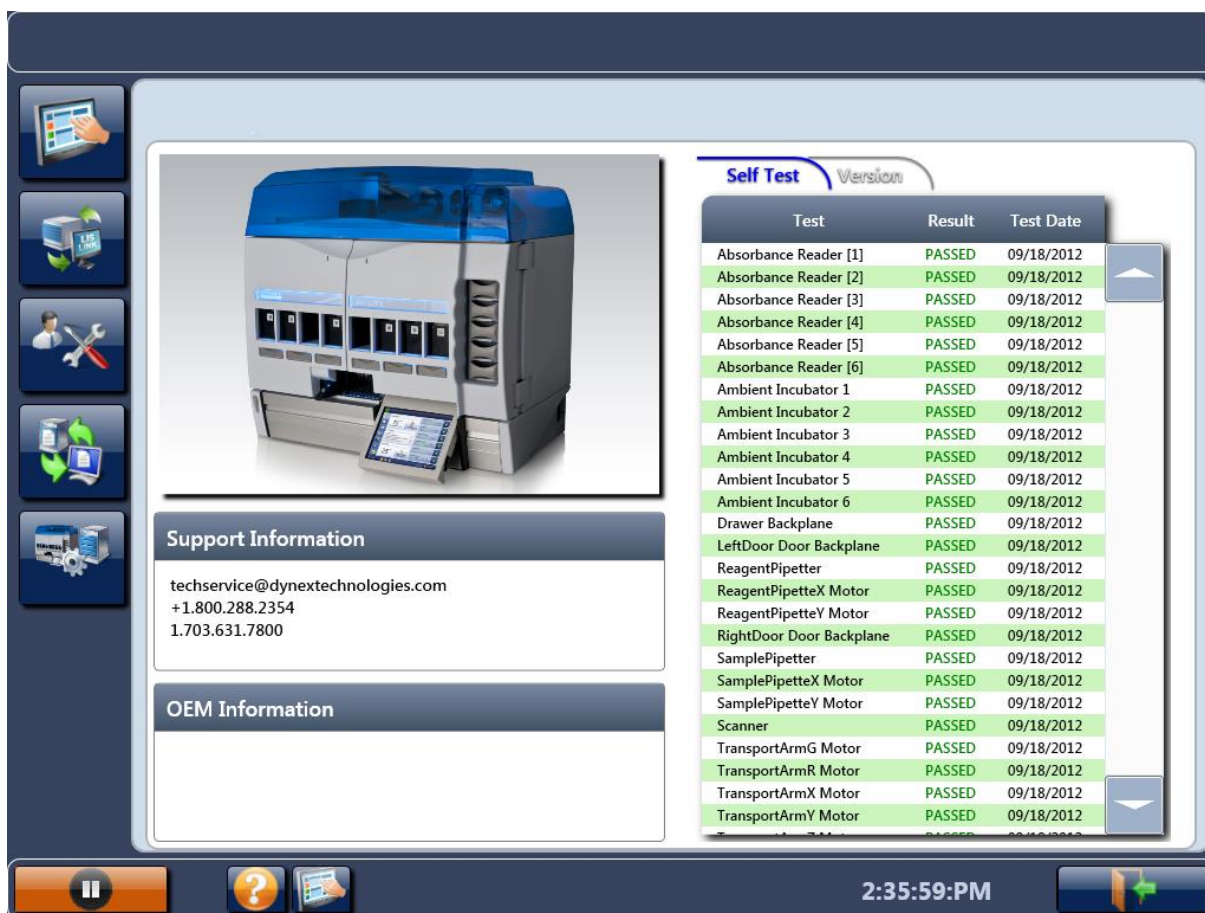

Figure 2-3: The Startup Screen
2. Enter the *Password* and press the *Right Arrow* to present the *Startup* screen (Figure 2-3).
The system is designed to perform a series of ELISA assays using kits that are supplied by third parties. The service engineer is expected to install the system as described in Chapter 2 and ensure that all modules are operating properly, as indicated by the PASS remark in the *Test* fields in Figure 2-3. When a service call is made, the service engineer is likewise expected to demonstrate that all modules are functioning in the pass mode.